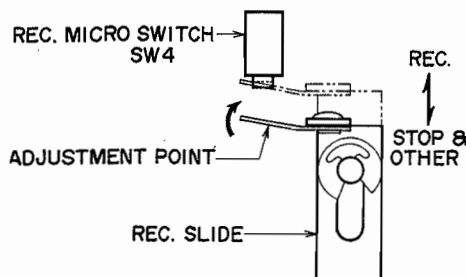

Fig. 16
6. REC. SLIDE ADJUSTMENT (See Fig. 16)
At Stop mode, bend adjustment point (phosphor bronze plate) of Rec. Slide toward arrow. (Fig. 16) When the Rec. Button is depressed, the phosphor bronze plate must properly turn ON the Rec. micro switch.